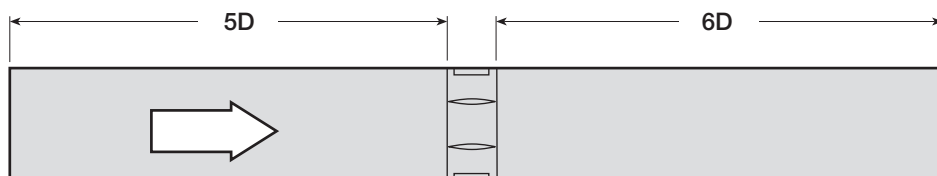

Figure 5.3
AMCA Figure 5.3
**Figure 5.3** Illustrates a fully ducted damper. This configuration has the lowest pressure drop of the three test configurations because entrance and exit losses are minimized by straight duct runs upstream and downstream of the damper.